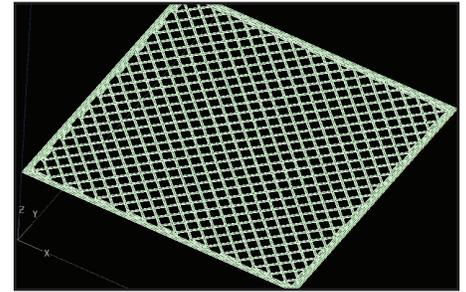

Figure 45: Sparse – double dense fill uses crossing rasters on each layer.
- Same as Sparse, except bi-directional rasters on each layer (Figure 45).